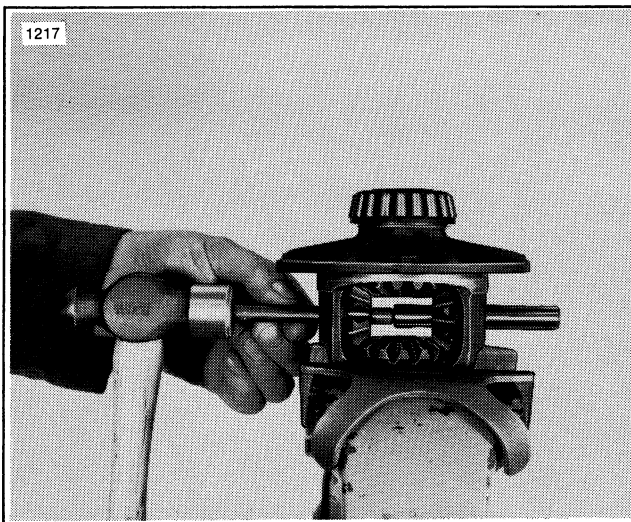

Figure 3-17. Driving Out Pinion Mate Shaft
15. Drive pinion mate shaft (14) from case with long brass drift (Figure 3-17).
16. Remove pinion mate gears (15) and thrust washers (16) (one on back of each pinion mate gear) by rotating both gears 90° to opening in differential case.
17. Remove differential side gears (17) and thrust washers (18) (one on back of each side gear) through opening in differential case.